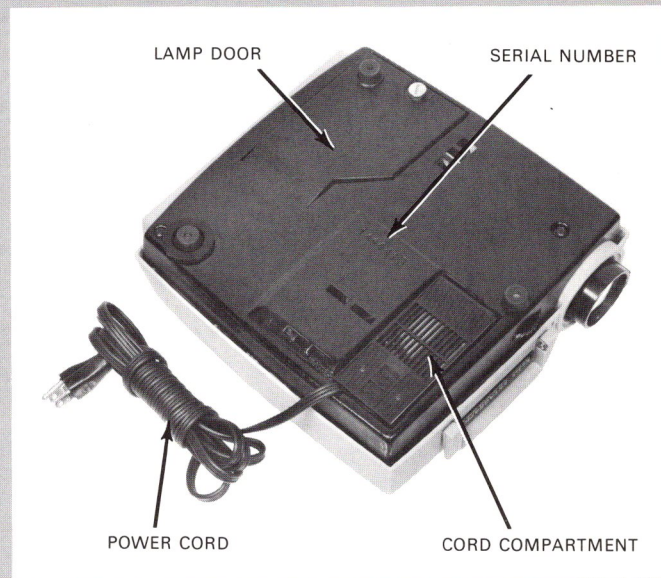

FIGURE 8
1. Open the door of the **CORD COMPARTMENT** (Figure 8) on the bottom of the projector. Remove the remote control cord and withdraw the **POWER CORD**.
Turn the projector upside down. Open the LAMP DOOR (Figure 8) by turning the coin-slotted screw counterclockwise.